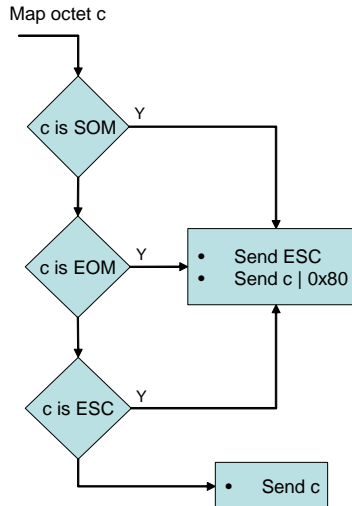

Figure 2 Mapping of payload octets for UART frames transmission
- Special values are SOM (0x02), EOM (0x04) and ESC (0x10). The application payload octets are remapped such that any special value is mapped to a couplet of ESC + that value added to 128, as shown in Figure 2.